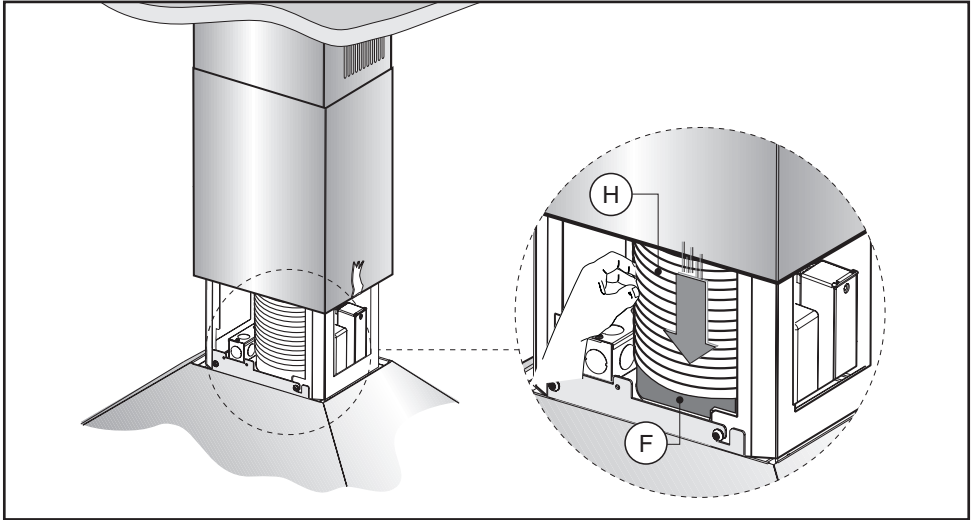

Fig.10
- Fix the air evacuation pipe **H** (not supplied) onto the connection flange **F** (**Fig.10**).